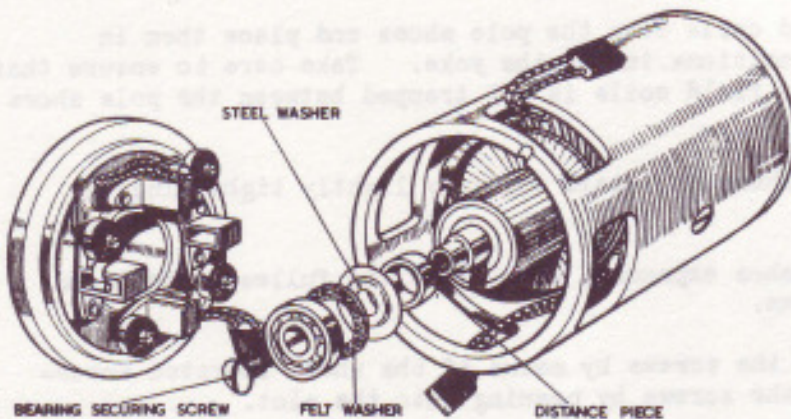

FIG. 16. COMMUTATOR END BEARING REMOVED.
- (vi) The bearing, felt washer, steel washer and distance piece can be pulled off the armature at the commutator end when the securing screw is removed (Fig.16).
To replace the bearing at the commutator end, remove the commutator end bracket as previously described, and remove the bearing as shown in Fig.16. Fit the new bearing, taking care to replace the distance piece, steel washer and felt washer as shown.